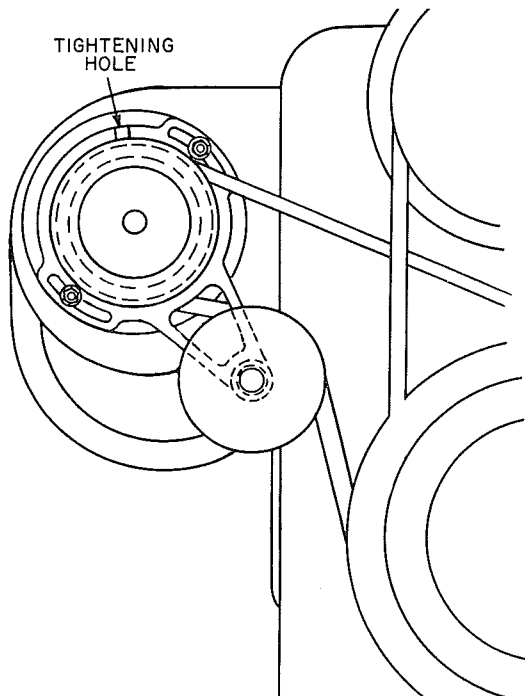

FIG. 9—BELT TENSION ADJUSTMENT
a. Loosen the two nuts holding the idler pulley bracket to the blower until the bracket can be rotated by using the tightening hole on the idler bracket as shown in Fig. 9.